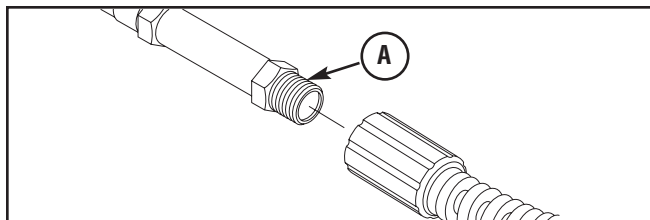

Figure 12— Connect High Pressure Hose to Pump
- 2A. Attach other end of the high pressure hose to high pressure outlet (A) on pump (Figure 12). Tighten by hand.